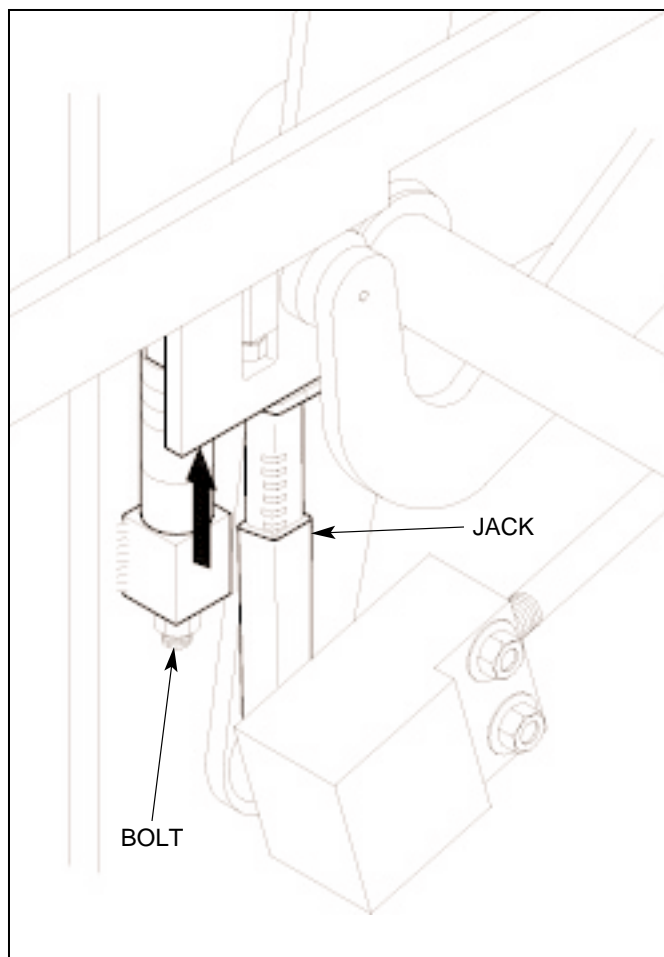

Figure 4.14 MEASURING COLUMN OF SPACERS
- 4.1.21 Loosen bolt of column spacers at all four corners (see figure 4.14).
- 4.1.22 Use a jack on all four corners to raise frame. Take spacers out on all corners (see figure 4.14).
- 4.1.23 Now, insert a column of spacers **8 3/4" [222mm]** high between the side frame supports and the pallet feeder supports (see figure 4.14).